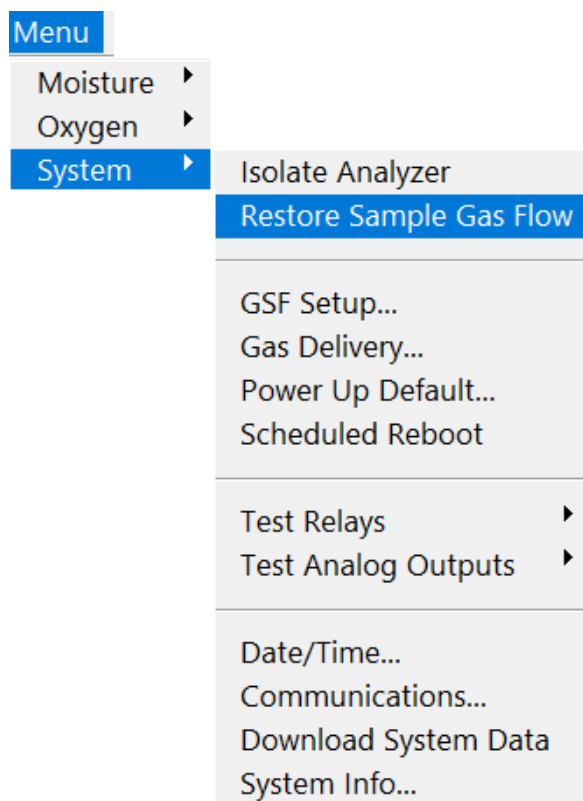

Figure 14: Starting Gas Flow
16. After warm-up and purge are complete, establish sample gas flow by pressing the menu key and selecting System > Restore Sample Gas Flow as shown in Figure 14. Verify that the main screen indicates flow for both moisture and oxygen.